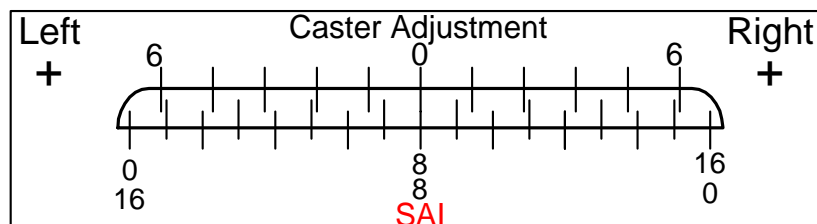

Figure 19
- 1) Hang the TLT-30 the left front wheel clamp to measure SAI/KPI (Fig 19).